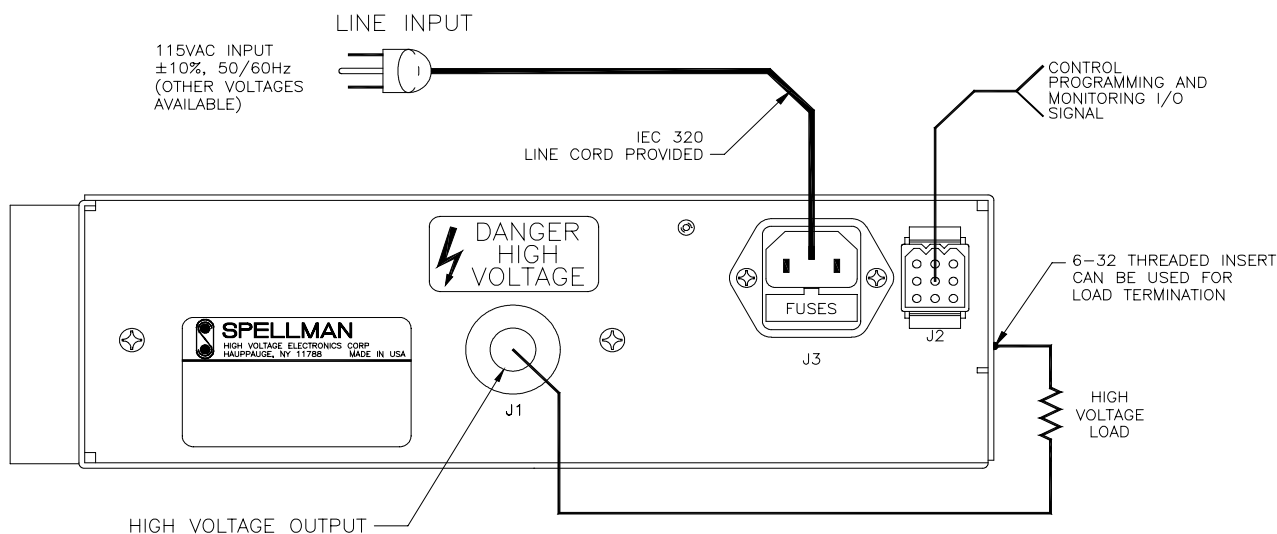

Figure 3.1 Typical Operating Set Up
- C) **PROPER GROUNDING TECHNIQUE:** The chassis of high voltage power supplies must be grounded, preferably to a water system ground using copper pipe or other earth ground. See Figure 3.1 for a typical operating setup. The return line from the load should be connected to the power supply chassis. Using a separate external ground at the load is not recommended. An IEC 320 connector is provided for connection to the line voltage source. A standard three prong line cord is also provided.